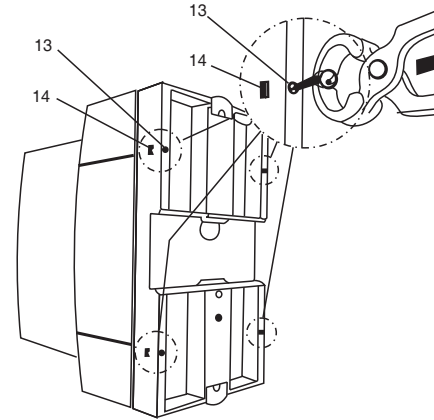

Fig. 16 Withdrawing the device
**8. Withdrawing and inserting the device** (Fig. 16)